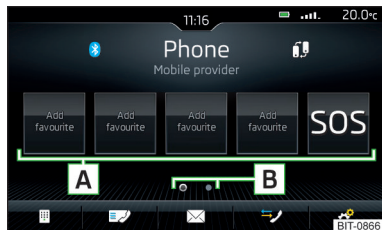
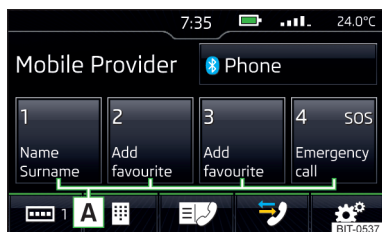

Fig. 167
Fig. 168
- » Fig. 167 or » Fig. 168.
- ▶ To **switch storage group**, tap the function surface  » Fig. 167 or  » Fig. 168 and select the desired group.
- ▶ To **dial**, tap the assigned function surface  » Fig. 167.
- ▶ In the main *Telephone* menu, **press and hold** the desired function surface  » Fig. 167.